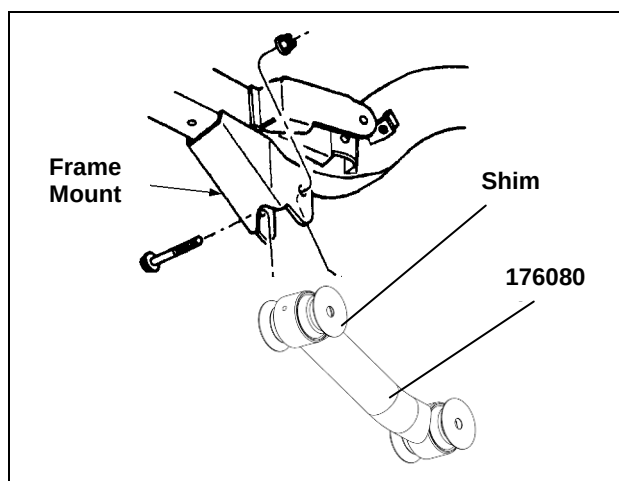

Figure 13
- 1) ☐ Place track bar bracket 130019 on top of the axle bracket as shown in figure 13. To properly align the bracket, insert a 12mm bolt from kit 860072 through both brackets.
- 3) ☐ Install new Rancho suspension link 176080, along with four shims from kit 860218, to the frame and axle brackets. See figure 13. Use original hardware but do not tighten.